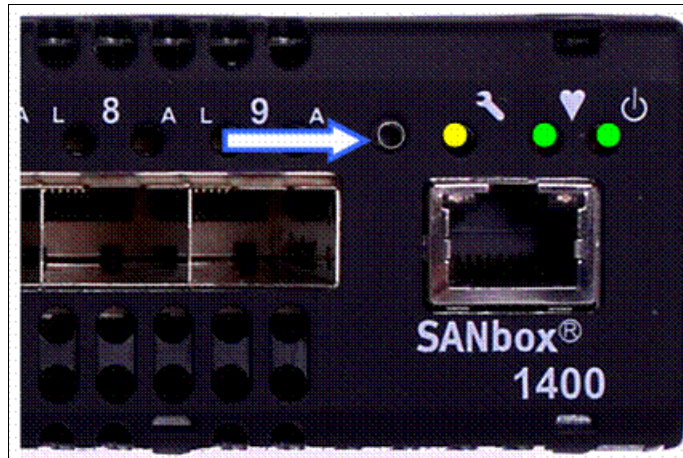

Figure 96 Front panel
1. Press and hold the maintenance button with a pointed tool, as indicated by the white arrow shown in Figure 96 on page 70.
We also have a reset button indicated by the white arrow in Figure 96.